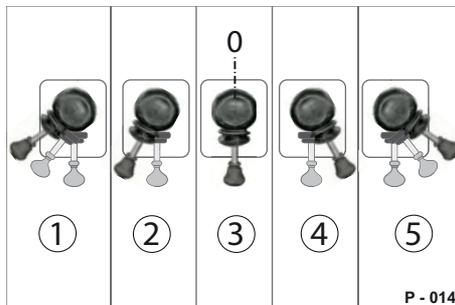

Fig. 38 Valve lever positions
- ▶ Turn the valve lever (Fig. 38/5) anti-clockwise two levels.
- ▶ When the height has been achieved, turn the valve lever back one stage, into the "Stop" position (Fig. 38/4).
- ▶ Turn the valve lever clockwise (Fig. 38/1).
- ▶ When the height has been achieved, turn the valve lever back one stage, into the "Stop" position (Fig. 38/2).